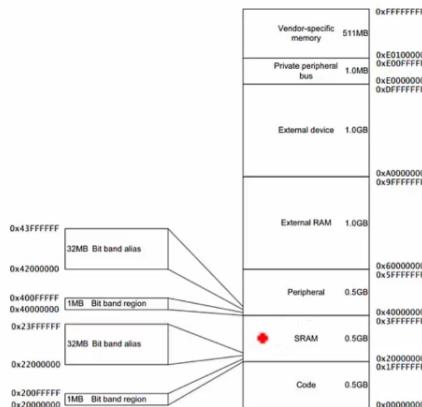

Figure 4.17: Bit banding: allowed section of the memory map
- Not all memory map are bit banded. As shown in Figure 4.17, only SRAM and the peripheral sections are bit banded.